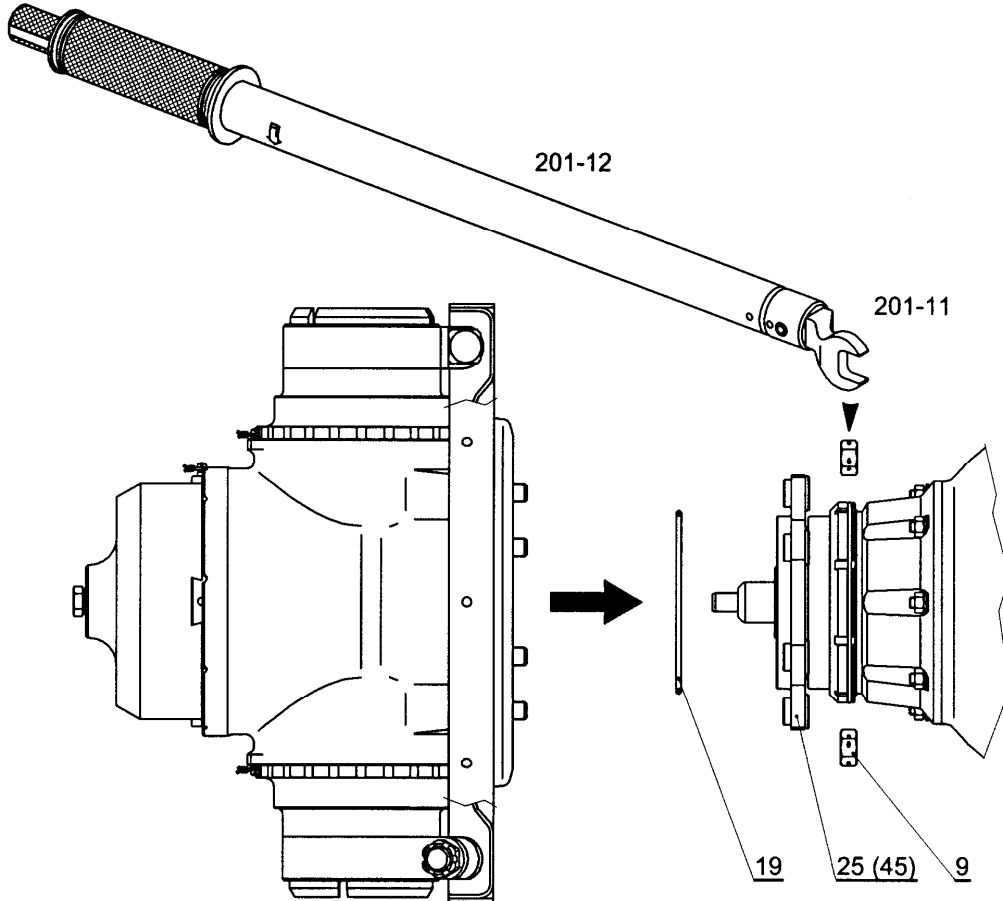

Fig.206 Propeller head installation
- (1) Ensure that pressure oil distributor is properly installed (see 3.B., 3.C.)
- (2) Take-off the forward part of the spinner (14) from the propeller.
- (3) After loosening the nuts (5) of the bolts (4) of the sleeves (3) remove 2 plugs of the blades to the propeller accessory.
- (4) Screw off the nuts (9) and remove the cover (16), put the later together with plugs of blades to the propeller accessory.
- (5) Install the propeller head (see fig.206):
- (a) Clean the centering diameter and facing surface of the rotor flange (25 or 45) of the pressure oil distributor and put the rubber sealing "O" ring (19) [V 415.1-10.06.1] on the centering diameter.
- (b) Clean the contact surface and the centering diameter of the rear part of the propeller hub (7).